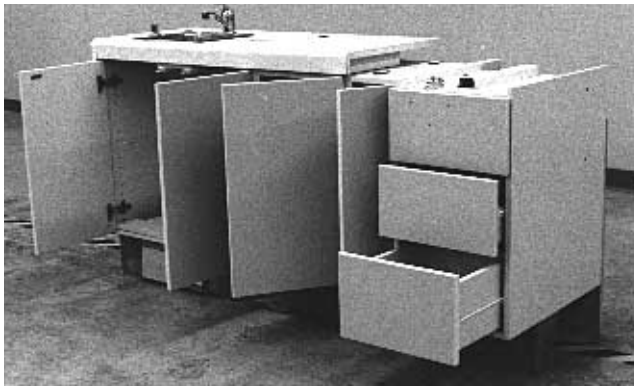

FIGURE 2
3. Remove the doors and drawers from the large lower module (see Figure 2).